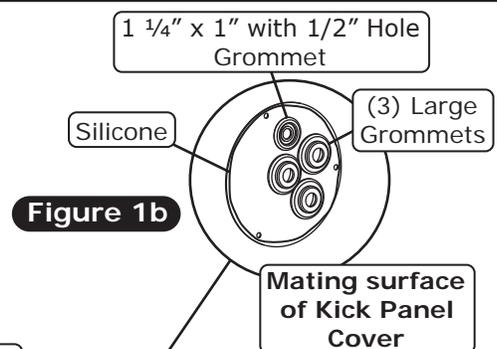

Figure 1b
1. Install (3) large and (1) 1 1/4" x 1" with 1/2" hole grommets into the kick panel cover (See Figure 1b, below).
3. Apply a 1/4" bead of silicone around the mating surface of the kick panel cover as shown in Figure 1b, below.